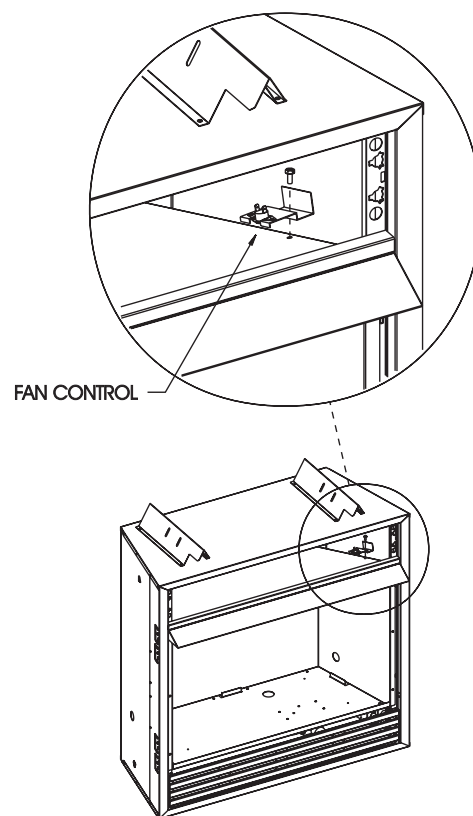

Figure 14
13. Refer to Figure 14 for fan control bracket location. Align clearance hole on fan control bracket with screw hole on firebox top. Attach fan control bracket to firebox top with one (1) screw from Step 12.